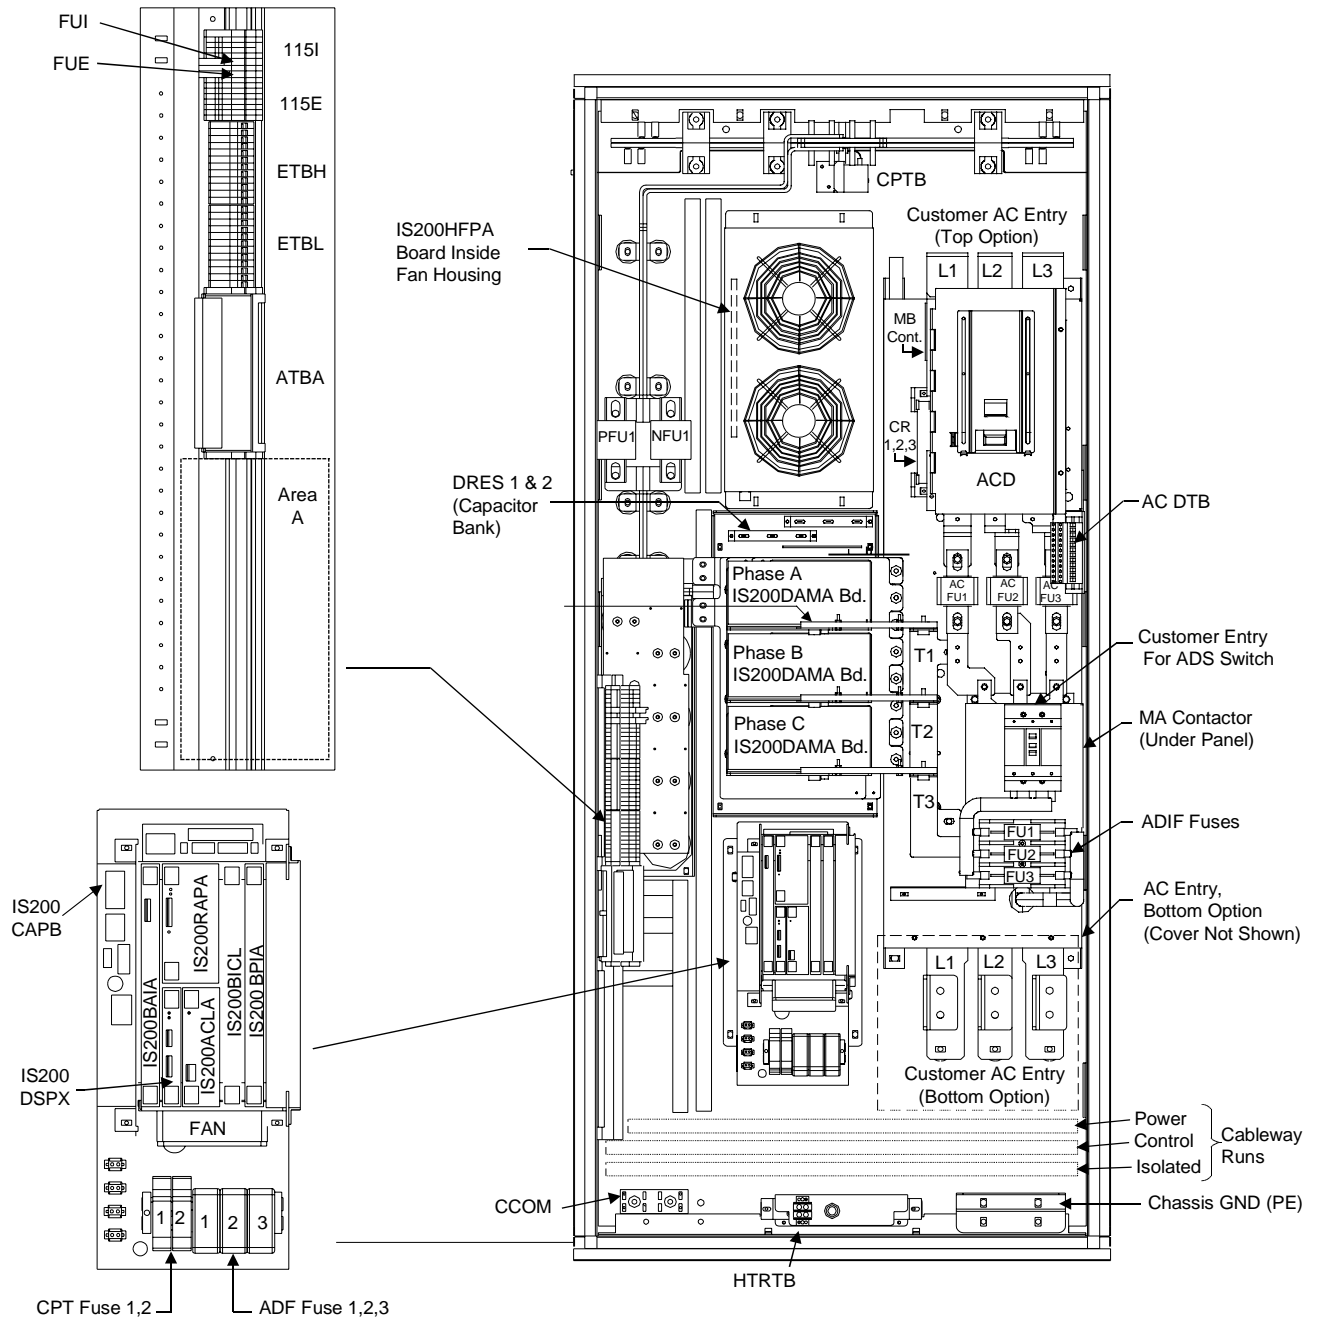

Figure 3-1. Sample Layout Drawing, 620 Frame Regenerative Source
**Note** The drive layout drawing (see Figure 3-1) shows the location of connection points, fuses, and other drive components. These drawings are provided in document GEH-6390. Table 3-1 identifies the standard layout drawing for each frame size.